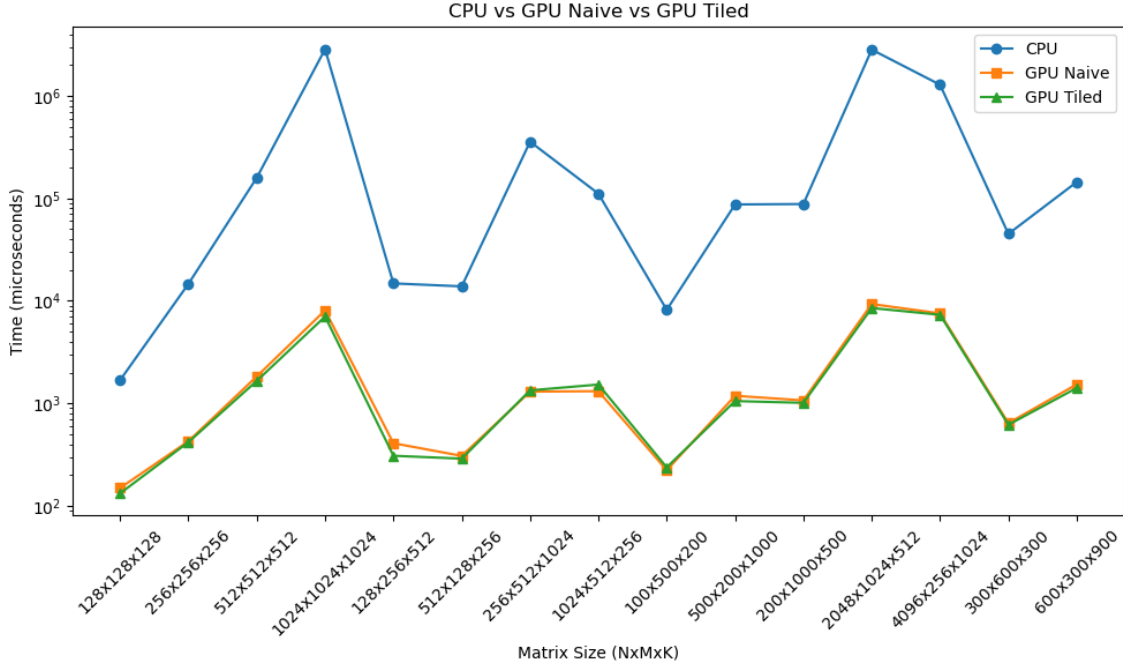

Figure 1: Matrix size vs Execution time (log scale).
- **Observations:** As shown in Figure 1, the GPU-Tiled implementation outperforms the GPU-Naive implementation, especially on larger matrices, by minimizing redundant global memory fetches.
1Note: The graph generated (Figure 1) combines the performance results of the Tiled GPU implementation from Task 5 alongside the CPU and GPU-Naive results for direct comparison.